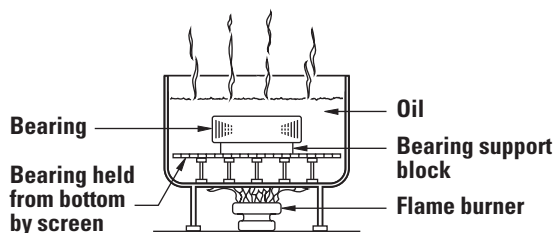

Fig. 16. Heat expansion method.
- The oil bath is shown in fig. 16. The bearing should not be in direct contact with the heat source.